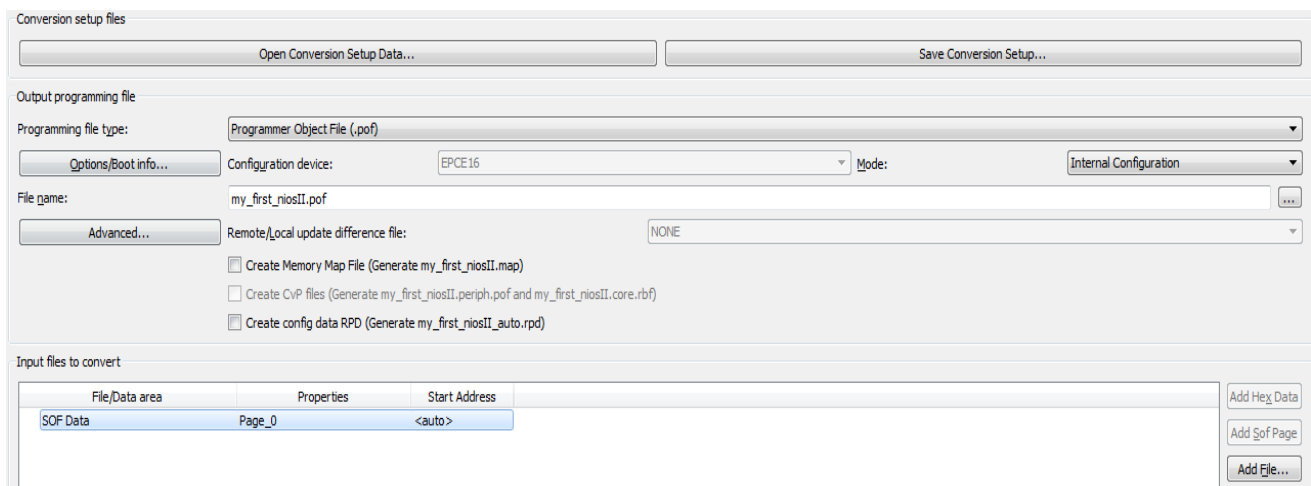

Figure 7-12 Convert File Window Setting
- Open the convert programming file window in Quartus II and set the window as shown in **Figure 7-12**.